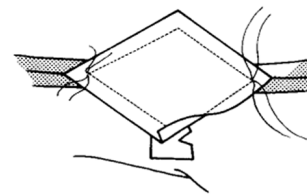

Figure 36
4. Pull all thread ends to wrong side; tie and secure. Press seams toward garment. Trim extending fabric edges to 3/8 inch from seam on outside section of gusset construction (Figure 36).